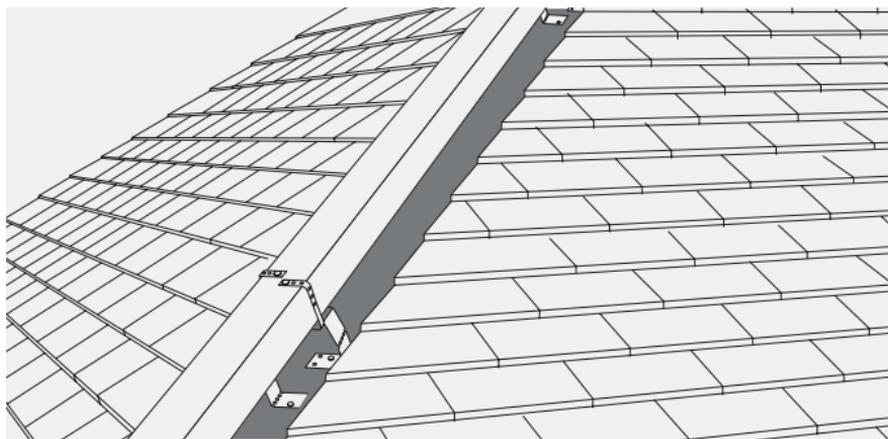

Fig. 57 – Fixing hip batten
- 5 Secure either one or two thicknesses of 50mm x 25mm tiling batten to the top of Batten Brackets, parallel to hip rafter, by folding over Batten Bracket arms and nailing through perforations into the battens using nails provided (Fig. 57).